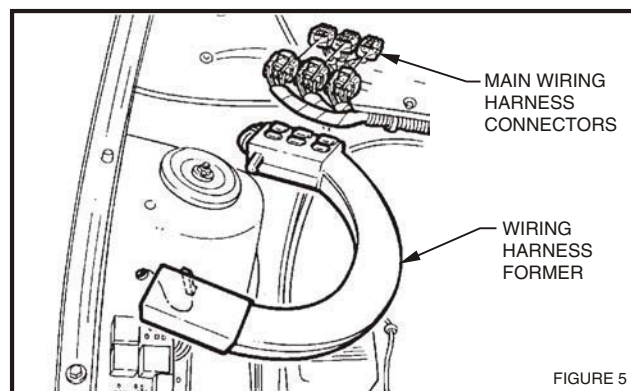

FIGURE 5
7. Disconnect 3 main wiring harness connectors at RH strut tower and unclip connectors from former, refer fig 5.
8. Disconnect former from strut tower, refer fig.5.